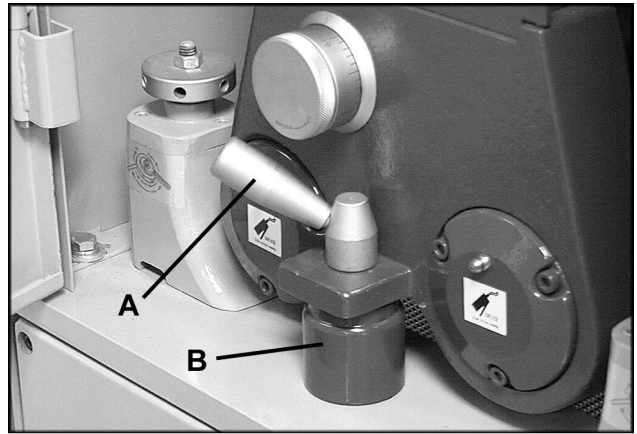

FIGURE 7
1. Turn the platen lock lever (A, Fig. 7) counter-clockwise one half turn to loosen. Remove the lever (A, Fig. 7) and slide out the platen block (B, Fig. 7).
3. Replace the platen block (B, Fig. 7) and lock it in with the platen lock lever (A, Fig. 7).
1. Remove the platen lock lever and the platen block. (See Fig. 7).